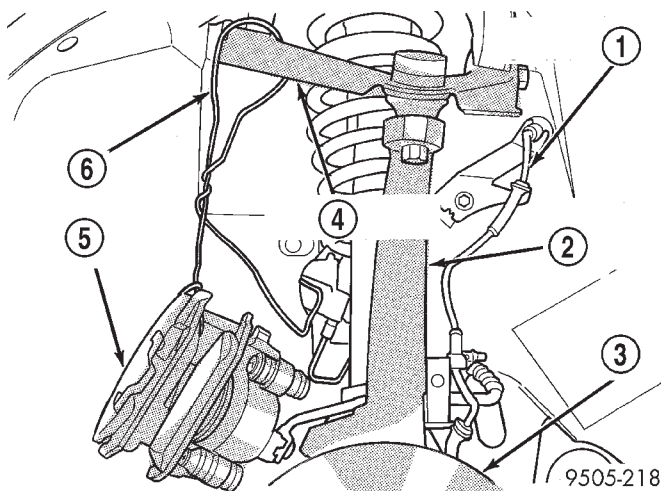

Fig. 80 Storing Caliper
(5) **Support caliper from upper control arm to prevent weight of caliper from being supported by brake flex hose. Supporting disc brake caliper from flex hose can damage the hose (Fig. 80).**